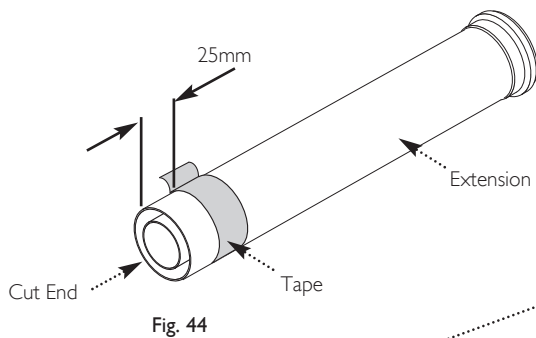

Fig. 44
14. Measure 25mm from the end of the flue extension and apply a length of tape around the outer duct (Fig. 44).